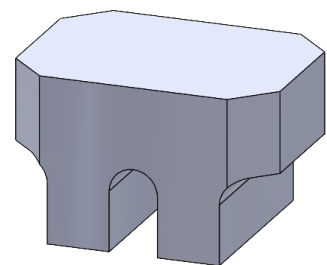

Figure E2:
7. Place the Narrow Interlocker Spacer (Figure E2) flush at the top of the interlocker in between the top rail and interlocker.